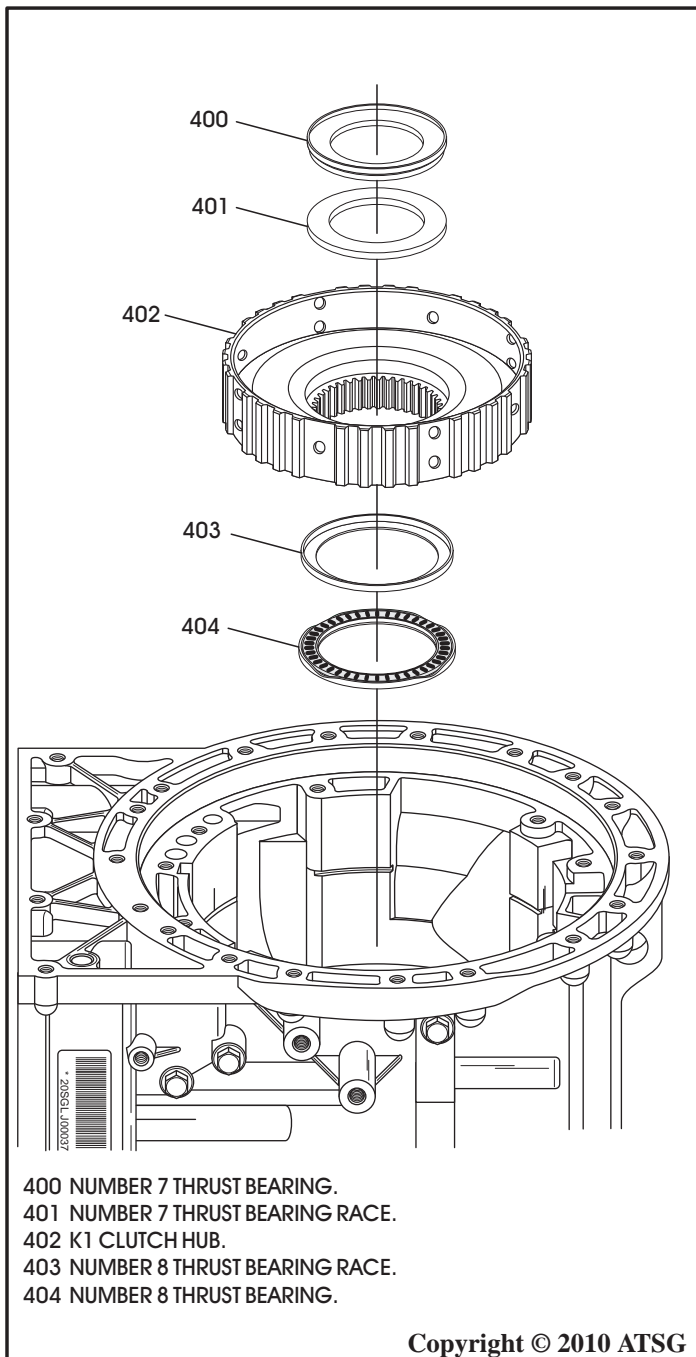

Figure 61
46. Remove the K1 clutch hub and the number 7 thrust bearing and race, as shown in Figure 61.
47. Remove the number 8 thrust bearing and race, as shown in Figure 61.